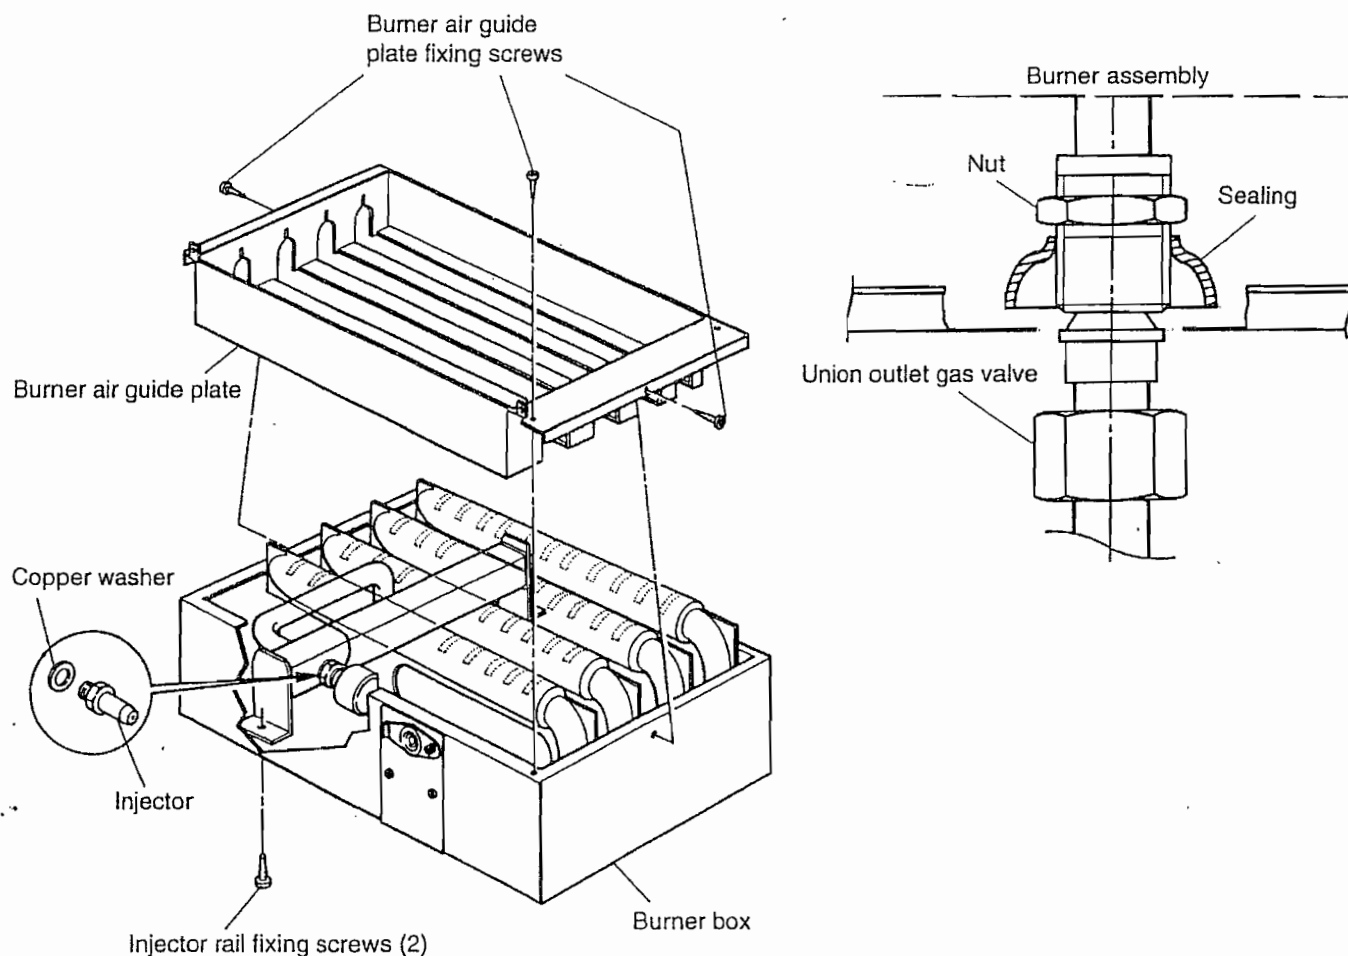

Fig. 48
- c) Unscrew burner inlet union connection (fig. 48).
- f) Remove the three screws securing the burner air guide plate (see fig. 48).
- g) Remove the two screws securing the injector rail (fig. 48) and remove the injector rail complete with burners.
- o) Re-assemble in reverse order. Refer to fig. 48 for replacement of spring rods and refer to wiring diagram fig. 25 for re-connection.
- h) Re-assemble in reverse order (refer to fig. 48 for replacement of spring clip and refer to fig. 25 for wiring).
- 2.6 Remove the combustion chamber front panel by unscrewing the two fixing screws (fig. 48).
- 2.7 Remove the two screws securing the burner assembly box (fig. 48).
- 2.19 Remove the spring clip securing the flue cowl to the flue and push the flue pipe upwards (fig. 48) and latch it in the flue to keep it out of the way.
- 2.20 Pull out the two fixing rods from the side of the flue cowl (fig. 48). Gently lift the flue cowl out.